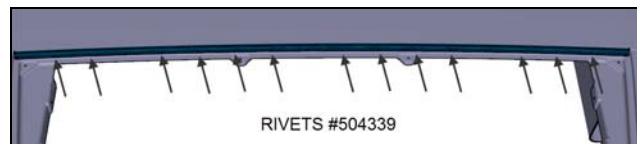

FIGURE 35
13. Fasten the drip edge using thirteen (13) rivets #504339 as shown on **FIGURE 35**.